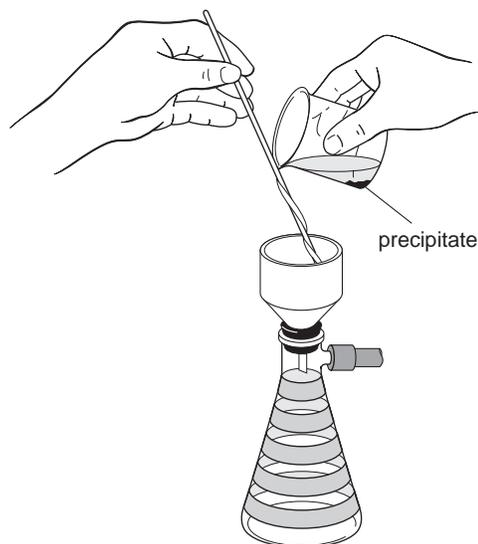

Figure 3 Decanting a supernatant liquid from a beaker to a Büchner funnel
8. Decant as much of the supernatant liquid as possible into the Büchner funnel. To prevent splashing and product loss, use a glass stirring rod to guide the liquid from the beaker onto the filter paper, as shown in Figure 3.